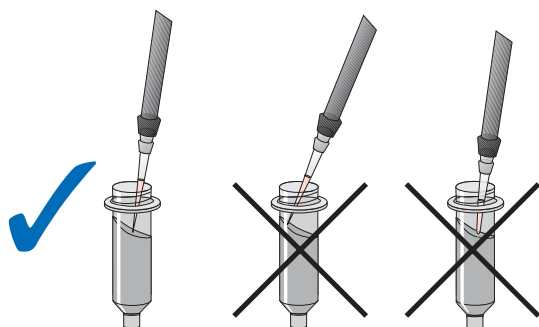

Figure 6 Instructions for sample application to the DyeEx 2.0 spin column.
- 11b. Carefully transfer the spin column to a clean centrifuge tube. Slowly apply the 20 μ l in vitro transcription reaction to the gel bed (Figure 6).**
Pipet the in vitro transcription reaction directly onto the center of the slanted gel-bed surface (Figure 6). Do not allow the reaction mixture or the pipet tip to touch the sides of the column.